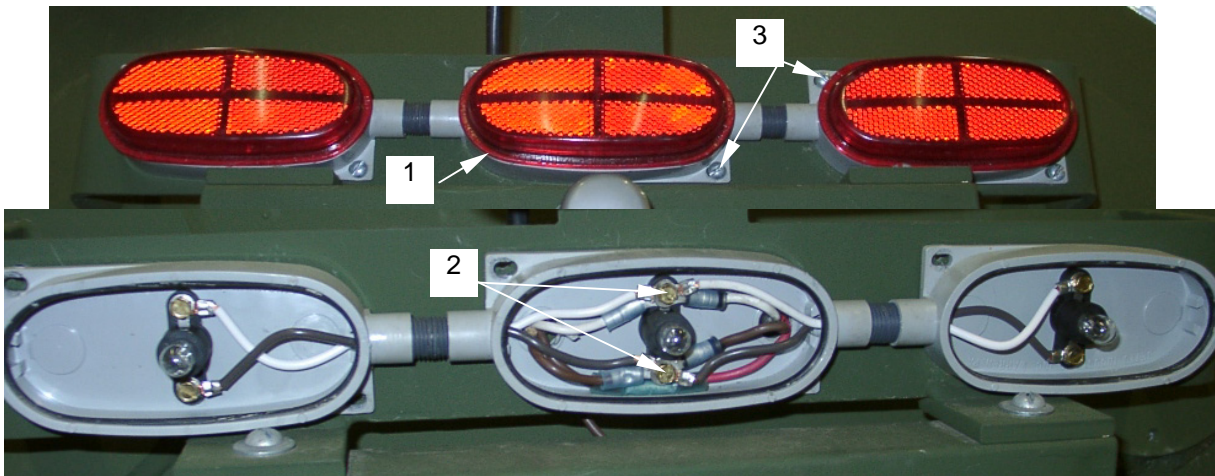

Figure 5. Rear trailer lights
- a. Remove lens cover (**figure 5, item 1**) from middle light.
- b. Tag and disconnect wiring (**figure 5, item 2**) to rear trailer lights.
- c. Loosen and remove mounting screws (**figure 5, item 3**) and nuts.
- f. Fasten light in place with mounting screws (**figure 5, item 3**) and nuts.
- h. Install lens cover (**figure 5, item 1**) on middle light.